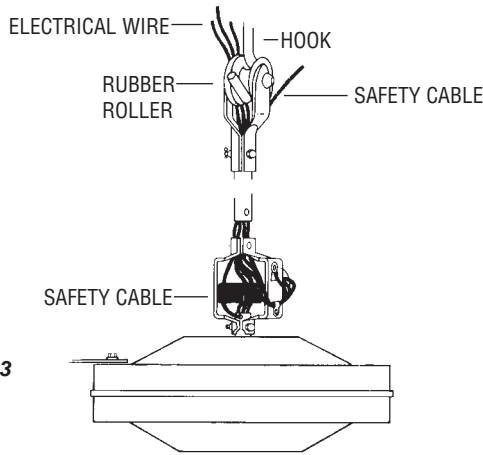

Figure 3
5. This fan is equipped with the required “secondary support” cable. This cable must be affixed to the beam structure and securely clamped in such a manner to support the weight of the fan in the event the mounting hook or other parts fail. After wrapping cable around a structural member that will support 300 lbs., secure cable with supplied cable clamps as illustrated in Figure 3. (NOTE: Any additional materials needed for specific installations may be purchased from your local distributor.)